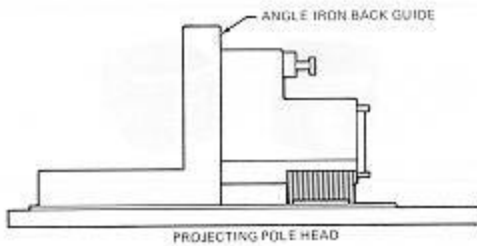
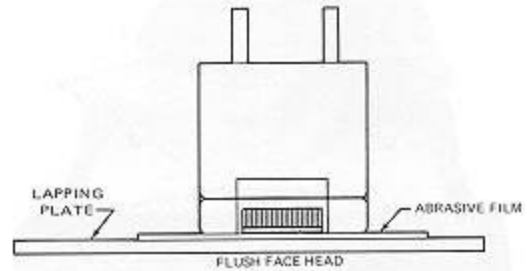

Figure 19
Figure 20
5. **The Head Support Angle** is needed to support a projecting pole head as illustrated in Figure 19 compared to a flush face head shown in lapping position in Figure 20.
The flush face head normally has enough face contact area to keep the head vertical during the coarse lapping as shown in Figure 20, where the face material on either side of the wear-groove gives stability. However, there is no harm, and there are advantages, in using the backup Support Angle even for flush face heads to prevent accidental rounding of the face during coarse lapping.